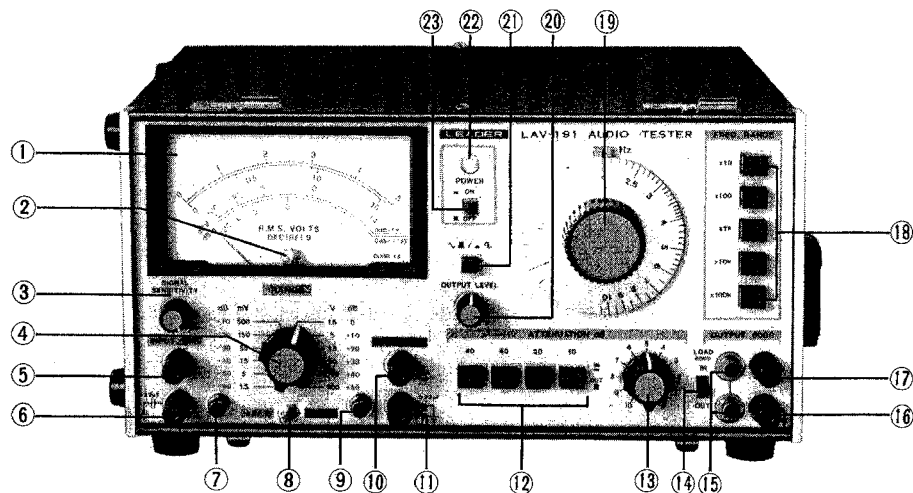
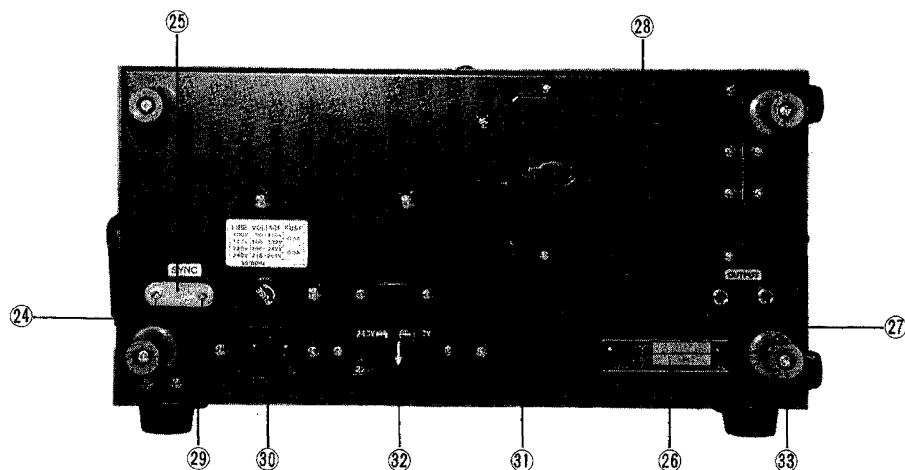

Fig. 3-1 Front panel controls and connectors.
Fig. 3-2 Rear panel controls.
3.1. AC Millivoltmeter Section, see Fig. 3-1.
- ① Meter: With scales calibrated for Volts, rms, and decibels.
- ② Mechanical zero adjuster for the meter.
- ③ SIGNAL SENSITIVITY: When the knob is set at the position of CAL, this unit can be used as AC millivoltmeter calibrated at the value of the range used in the same manner as that of ordinary AC millivoltmeter. When the knob is set at other than CAL, this unit is to set the level of incoming signal at 0dB and compare signal against standard signal in making measurement of SN ratio, etc.
- ④ RANGE switch: Selects the input voltage and dB level ranges.
- ⑤ ⑩ INPUT terminal (red): For the high potential side. ⑤ LEFT, ⑩ RIGHT.
- ⑥ ⑪ INPUT terminal (black): For the low potential side; this is "floated" from the chassis with a 0.22 μ F capacitor, ⑥ LEFT, ⑪ RIGHT.
- ⑦ Input jack for LEFT signal of stereo input.
- ⑧ INPUT SELECTOR switch: Selects the LEFT or RIGHT signal of stereo input.
- ⑨ Input jack for RIGHT signal of stereo input.
3.2 AF Signal Generator Section, see Fig. 3-1.
- ⑫ ATTENUATION dB switches: For attenuating the AF output signal; range is 0 to 110dB.
- ⑬ Attenuator switch: Adjusts the AF output signal in 1dB steps.
- ⑭ OUTPUT IMPEDANCE switch: Selects the output load impedance; 600Ω.
- ⑮ OUTPUT jack: For use with the pin plug lead.
- ⑯ Ground terminal (chassis connection).
- ⑰ OUTPUT terminal: For the AF output signal (connected in parallel with pin jack ⑰).
- ⑱ FREQ. RANGE switches: Five pushbuttons for selecting the range of the output frequency.
- ⑲ Frequency dial, Hz: Calibrated from 1 to 10Hz; actual output frequency depends on the range setting.
- ⑳ OUTPUT LEVEL control: For continuous adjustment of output.
3.3 Rear Connections, see Fig. 3-2.
Check the 0 pointer setting on the meter. If not zeroed at the left end of the scale, adjust the zero-set screw on the panel below the meter. (See Fig. 3-1.)